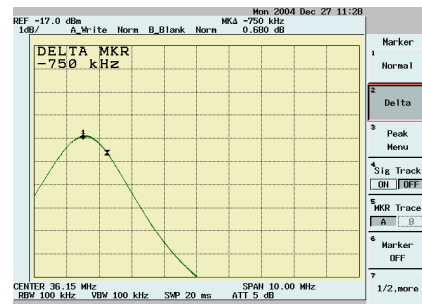

Fig. 2
- ☐ Calibrate **C17** and **L5** to tune the cell of D.P. to the frequency of the audio carrier subtracting about 750kHz (Fig.2) with **JP3** on and **JP4** and **JP5** off.